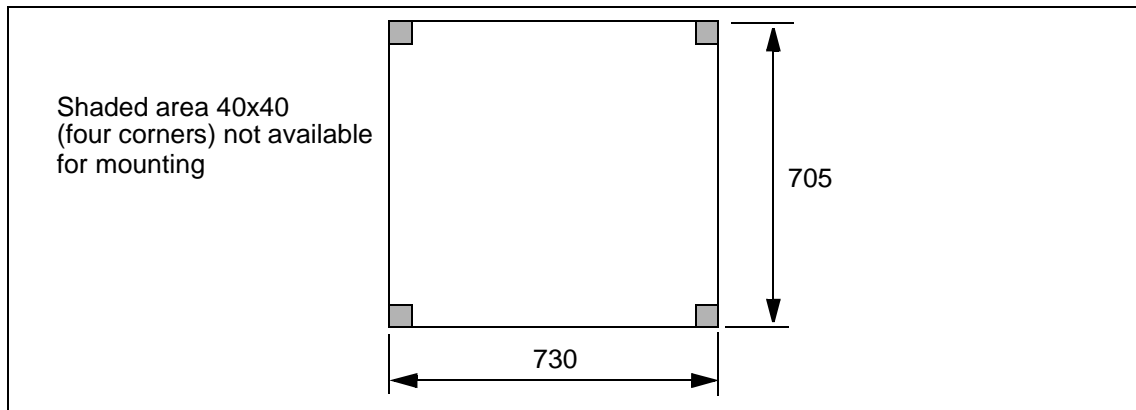

Figure 36 Mounting plate for mounting of equipment (dimensions in mm)
**124\*** The extension is mounted on top of the standard cabinet. There is a mounting plate inside. (See Figure 36).